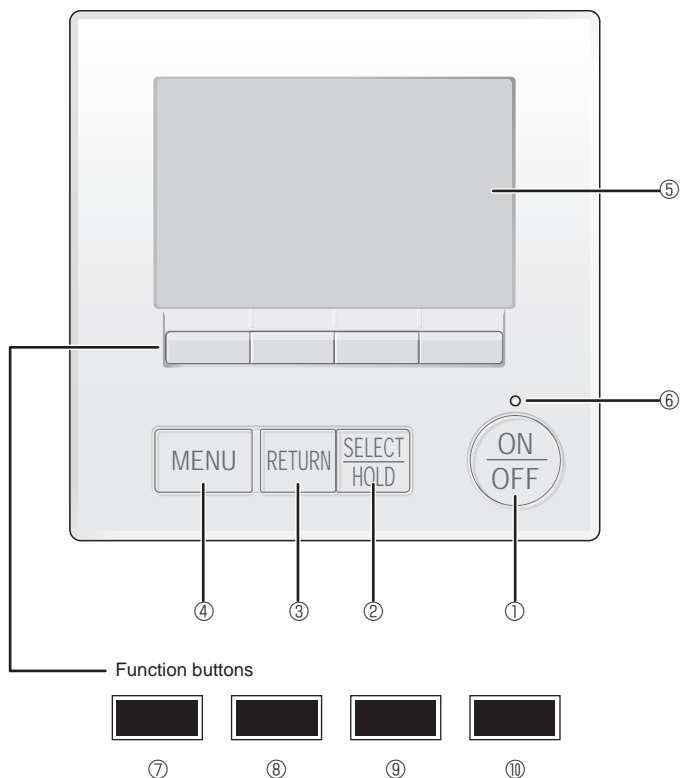

Fig. 7-2
7.3.1. Using wired MA remote controller (Fig. 7-2)
① [ON/OFF] button